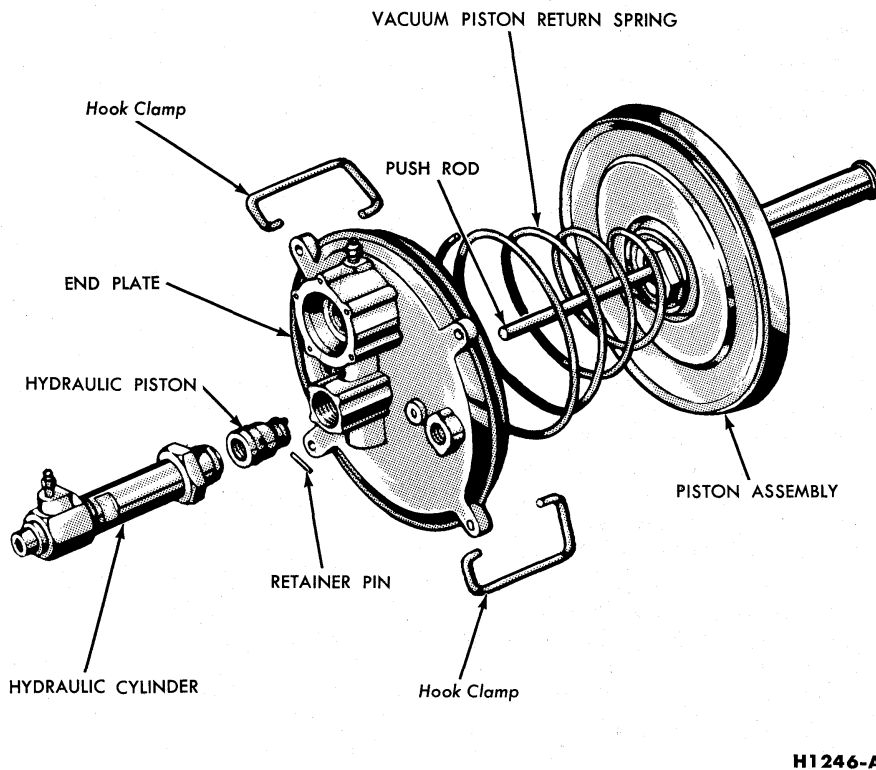

FIG. 32—Vacuum Piston, End Plate, and Hydraulic Cylinder
7. Compress the vacuum piston return spring by pressing down on the end plate and using hook-type clamps similar to those in Fig. 32. Hold the spring compressed.
12. Remove the hydraulic cylinder end seal from the end plate (Figs. 30 and 31). Remove the snap ring, then remove the push rod seal cup parts from the end plate (6¼-inch—retainer washer, spring spacer, seal retainer, seal cup and stop washer as shown in Fig. 30). (9½-inch—washer, spring, retainer washer, seal cup, and stop washer as shown in Fig. 32.)
(i). Mount the vacuum piston and guide in a vise, at the hex portion of the guide. Place the vacuum piston return spring over the push rod with the small end of the spring next to the vacuum piston (Fig. 32).
12. Carefully guide the push rod through the leather seal of the end plate, compress the spring, and install the hook clamps to hold the spring compressed (Fig. 32).